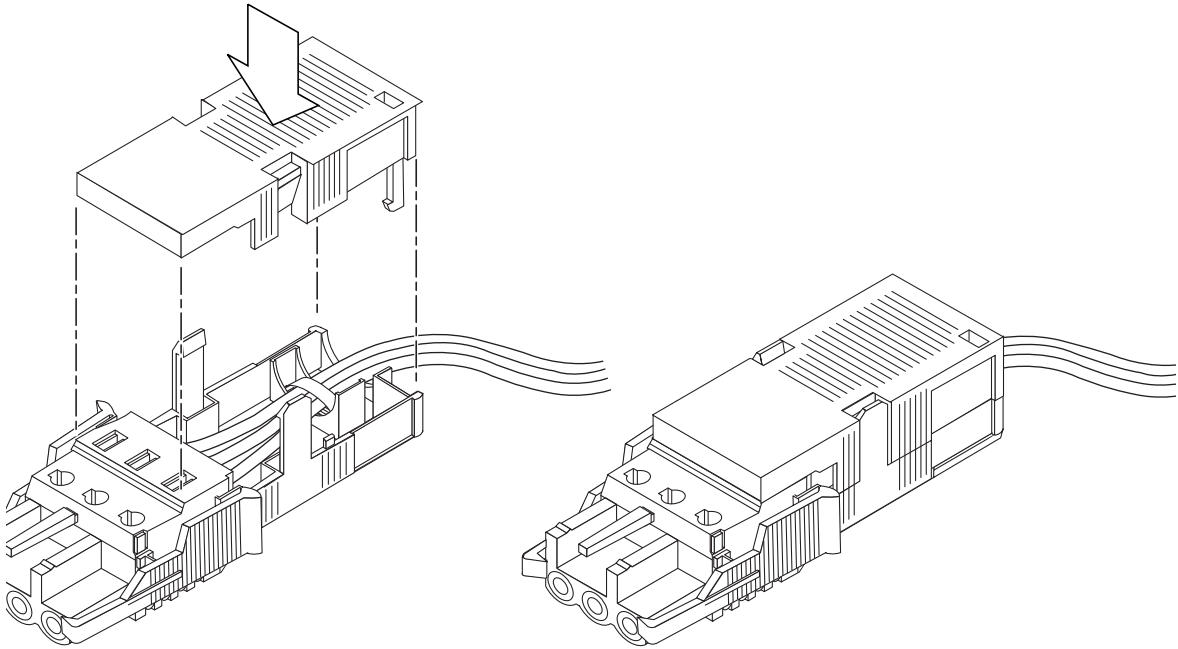

FIGURE 4-9 Assembling the Strain Relief Housing
5. Position the top portion of the strain relief housing so that the three prongs on the top portion fit into the openings in the DC connector, and push them together until they snap into place (see FIGURE 4-9).